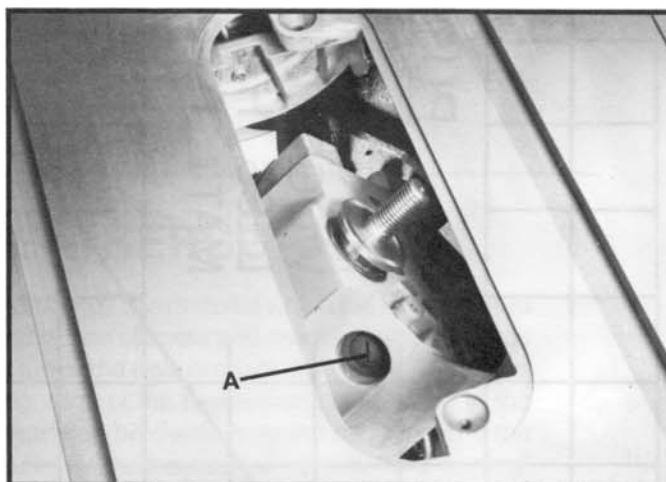

Fig. 47
2. Raise the motor to its maximum height and tilt the arbor to 45 degrees. One brush holder is shown at (A) Fig. 47.
4. To inspect the other brush, the saw must be turned upside down and placed on a flat non-scratch surface. The other brush is located 180 degrees from brush (A) Fig. 47.